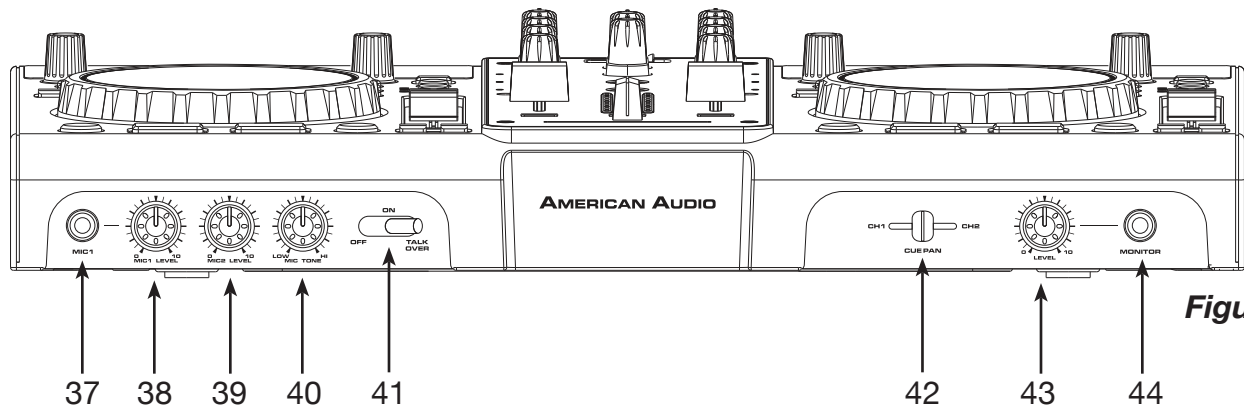
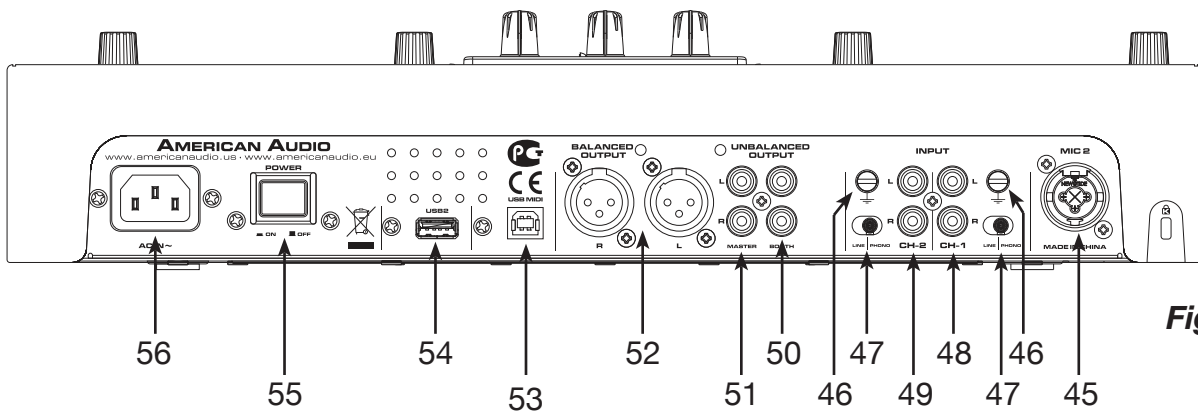

Figure 4
Figure 5
C. FRONT PANEL (FIGURE 4)
37. MICROPHONE 1 JACK - This jack accepts a standard 1/4 plug. The volume output level for this microphone will be controlled by its own respective *MIC KNOB* (38). **Note: We recommend that you use a 500-600ohm microphone for the best sound quality.**
42. CUE MIX - This slider is used to send a channels incoming signal to the headphones. Slide the slider to the left to monitor Channel 1, and to the right to monitor Channel 2. The cue level is adjusted by the *CUE LEVEL VOLUME KNOB* (43). Be sure the cue level is set to minimum before putting a pair of headphones on.
44. HEADPHONE JACK - This jack is used to connect your headphones to the mixer allowing you to monitor the cue source. Use headphones only rated at 8 ohms to 32 ohms. Most DJ headphones are rated at 16 ohm, these are highly recommended. Always be sure the *CUE LEVEL VOLUME* (43) is set to minimum before you put the headphones on.
D. REAR PANEL (FIGURE 5)
45. MICROPHONE 2 JACK - This combo jack will accept a standard 1/4 plug or XLR 3-pin balanced male plug. The volume output level for this microphone will be controlled by the *MIC 2 VOLUME CONTROL KNOB* (39). **Note: We recommend that you use a 500-600ohm microphone for the best sound quality.**
48. CHANNEL 1 LINE/PHONO INPUT JACKS - CD players, Tape Decks and other line level instruments may be connected to these jacks. The *CHANNEL LINE LEVEL SELECTOR SWITCHES (47)* must be set to the correct position representing what is connected to the input jacks; i.e. if a turntable is connected to the input jacks the *CHANNEL LINE LEVEL SELECTOR SWITCHES (47)* must be set to "Phono". See *CHANNEL LINE LEVEL SELECTOR SWITCHES (47)* on this page. The red colored RCA jack represents the right channel input and the white represents the left channel input. Input volume will be controlled by channel one fader. The channel *SOURCE SELECTOR SWITCH (24)* must be in the "Line" position, to monitor any source connected to these jacks.
49. CHANNEL 2 LINE/PHONO INPUT JACKS - CD players, Turntables, and Tape Decks may be connected to these jacks. The *CHANNEL LINE LEVEL SELECTOR SWITCHES (47)* must be set to the correct position representing what is connected to the input jacks; i.e. if a turntable is connected to the input jacks the *CHANNEL LINE LEVEL SELECTOR SWITCHES (47)* must be set to "Phono". See *CHANNEL LINE LEVEL SELECTOR SWITCHES (47)* on this page. The red colored RCA jack represents the right channel input and the white represents the left channel input. Input volume will be controlled by channel two fader. The channel *SOURCE SELECTOR SWITCH (24)* must be in the "Line" position when CD players and any other line level instruments are connected to these jacks, to monitor any source connected to these jacks.
50. BOOTH OUTPUT JACKS - The VERSADECK offers a secondary output usually used to monitor your mix or to route to an outboard recording device. This output volume is controlled by the *BOOTH LEVEL KNOB (35)*.
51. RCA MASTER OUTPUTS - The RCA jacks send a low current unbalanced output signal. These jacks should only be used for shorter cable runs to signal processors or looping to another mixer. For cable runs greater than 15 feet use the *XLR BALANCED JACKS (52)*.
52. BALANCED XLR MASTER OUTPUT JACKS - The Master Output includes a pair of XLR Balanced jacks as well as a pair of *RCA UNBALANCED JACKS (51)*. The 3-pin XLR jacks send a high current balanced output signal. These jacks should be used when you will be driving an amp or other audio equipment with a balanced input, or whenever you will be running a signal line greater than 15 feet. Always, use these jacks whenever possible.